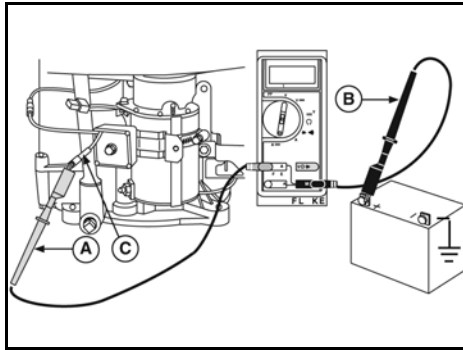

Figure 27
5. Attach RED test lead clip (A, Figure 27) to RED DC output terminal on regulator-rectifier.
6. Attach BLACK test lead clip (B) to positive (+) battery terminal.